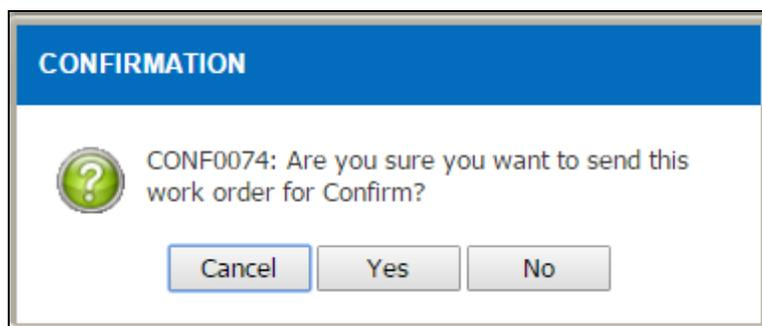
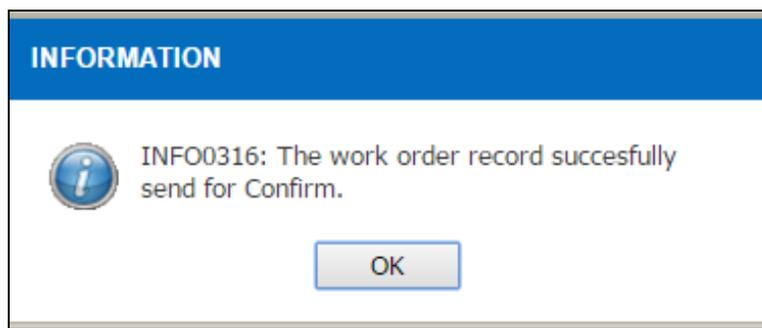

Figure 3.1-21 Save Record Alert Message
Figure 3.1-22 Save Record Alert Message
- Alert message will be displayed as per Figure 3.1-21, click on the  button. Figure 3.1-22 will be display. Click on the  button.